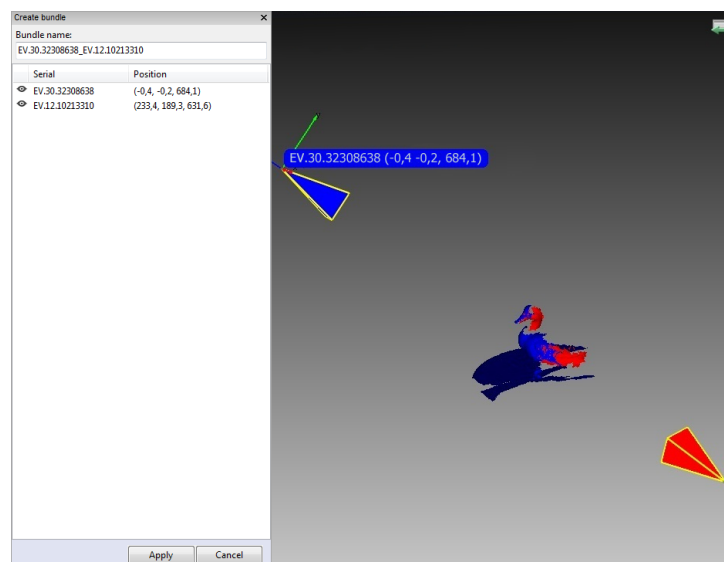

Figure 9.4.: Bundle-creation window.
5. From the menu, select *File* → *Create bundle*. A warning message will appear if you forget to align the scans. Otherwise, the bundle-creation panel will appear (see Figure 9.4). The *3D View* window will show the selected scans, the position and viewing direction of the scanners (by means of an appropriately colored pyramid), the device ID, and the scanner coordinates. It will display a list of connected devices and corresponding information.